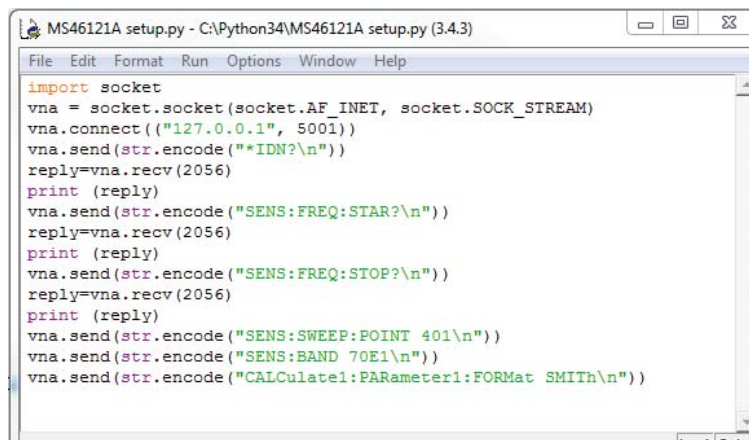

Figure 1-7. Execution of the MS46122A/B Python Script
8. The input of the script should look like Figure 1-7.